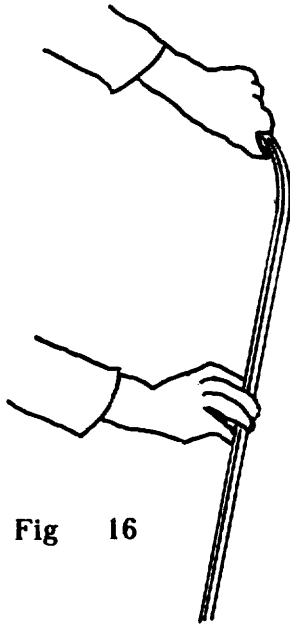
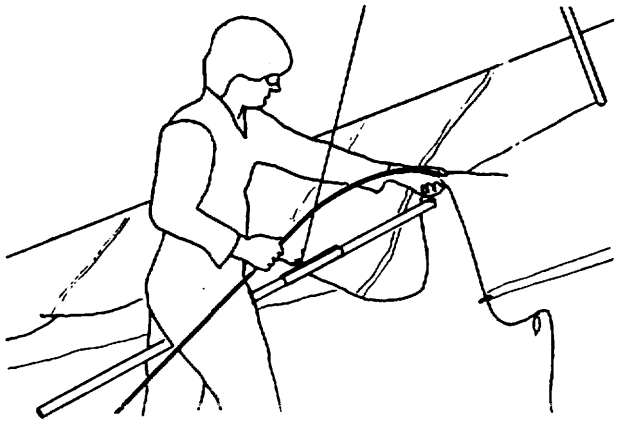

Fig 16
Fig 17
10) Remove the battens from the bag, lay them on the ground, and check them for symmetry, side to side. (Fig 16) Correct any that are assymmetric.(See the tuning and maintenance sections of this manual for more information on batten shaping.) Separate the right side battens (those with black tips) from the left side battens (white). Insert the top surface battens into the sail. Order of battens is longest to shortest from the root out to the tip. Wills Wing numbers battens from the tip inboard, so that the shortest batten (which is the straight plug on batten), is the number one batten, and the longest batten is the #10 batten. When inserting the number 10 battens, you should lift the rear end of the keel and hold it up so that the batten slides in more easily without the rear end scraping the ground (Fig 17).